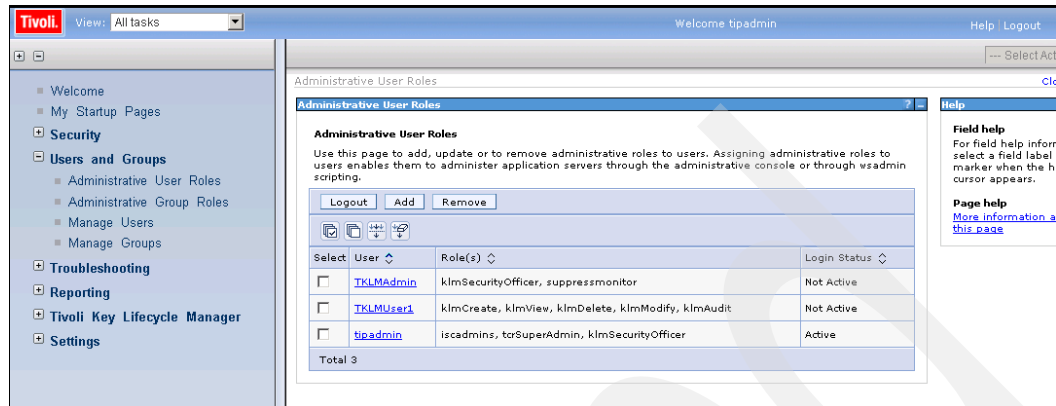

Figure 9-11 Administrative user roles panel after save
- After the save is complete, the **Administrative User Roles** panel is redisplayed with the new user now included in the user list (Figure 9-11).